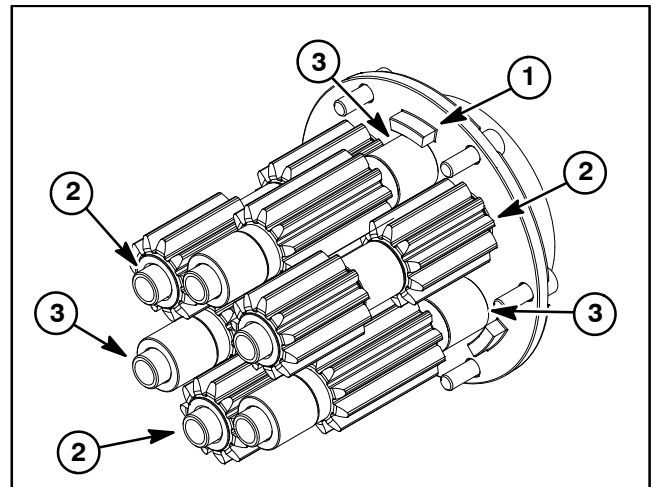

Figure 32
5. Note locations of projections on inside of cover for assembly purposes. The projections need to be aligned with the gear pins that have one (1) gear (Fig. 32).
6. Slide each gear pin with gears and spacers from cover. Note location of gears and spacers on each of the six (6) gear pins.
7. If necessary, remove ball bearings from cover and housing. There are two (2) holes in the cover and housing that allow use of a pin punch to remove bearings. Discard removed bearings.
3. Slide each gear pin with gears and spacers into cover. Make sure that projections on inside of cover are aligned with the pins that have one (1) gear (Fig. 32).